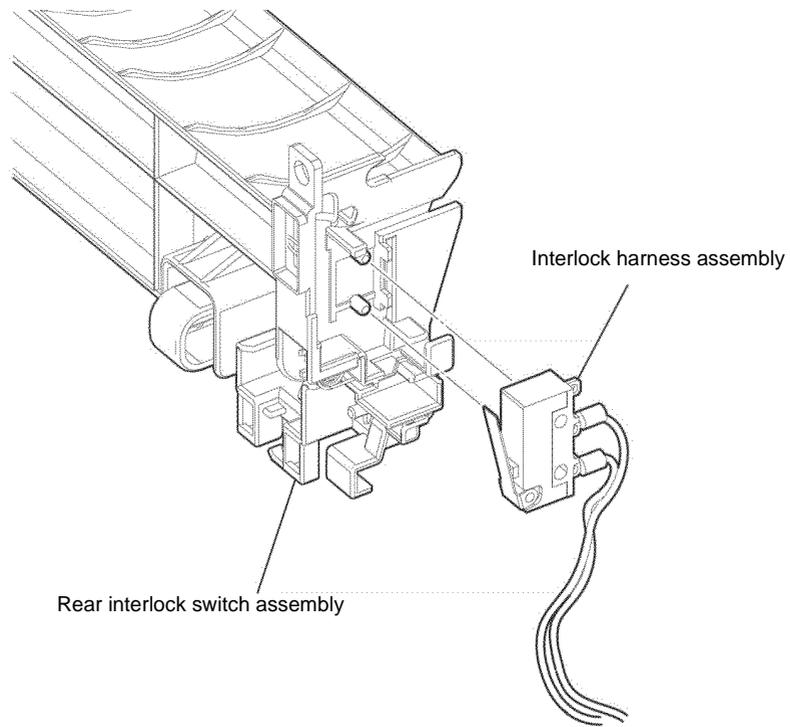

Figure 4 Interlock harness assembly removal
13. Remove the interlock harness assembly from the rear interlock switch assembly, Figure 4.